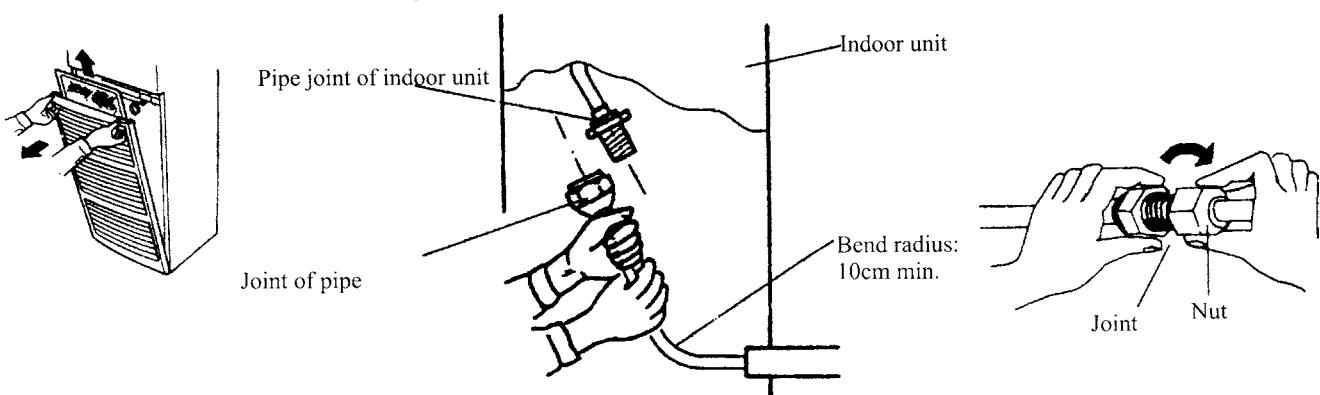

Fig. 102
- (1) Remove Air intake grille and lower front panel.
- (2) Thread the connecting pipe through the passing hole of indoor unit, and fit it with the indoor unit pipe joint.
- (3) Readjust shape of the pipe to make it easy for the joint, match center of both pipe joints and screw with hand for 3~5 circles (see Fig. 102).